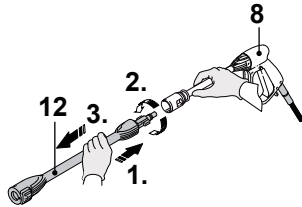

Fig. 25
9. Press the extension lance (12) towards the spray gun (8) and turn it anti-clockwise to remove it (Fig. 25).